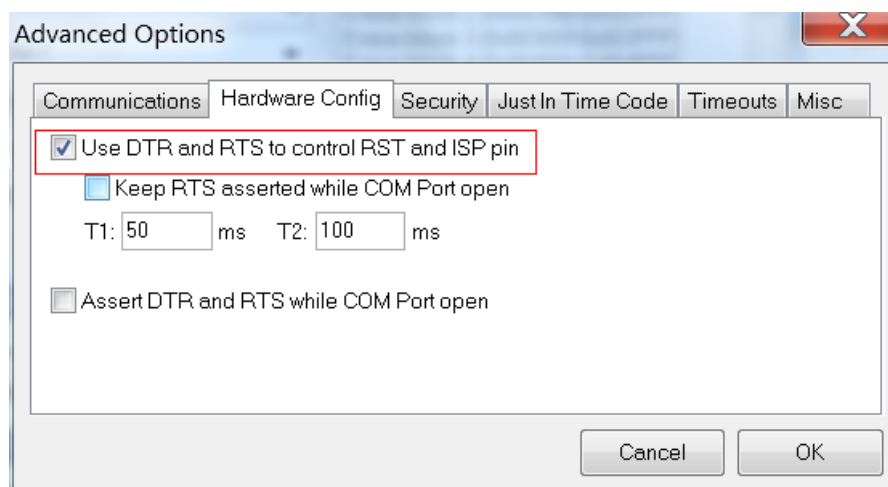

Figure 3-15
(2) Choose “Use DTR and RTS to control RST and ISP pin” in “Hardware Config” in “Advanced Options”, then click “OK”. Refer to figure 3-15: